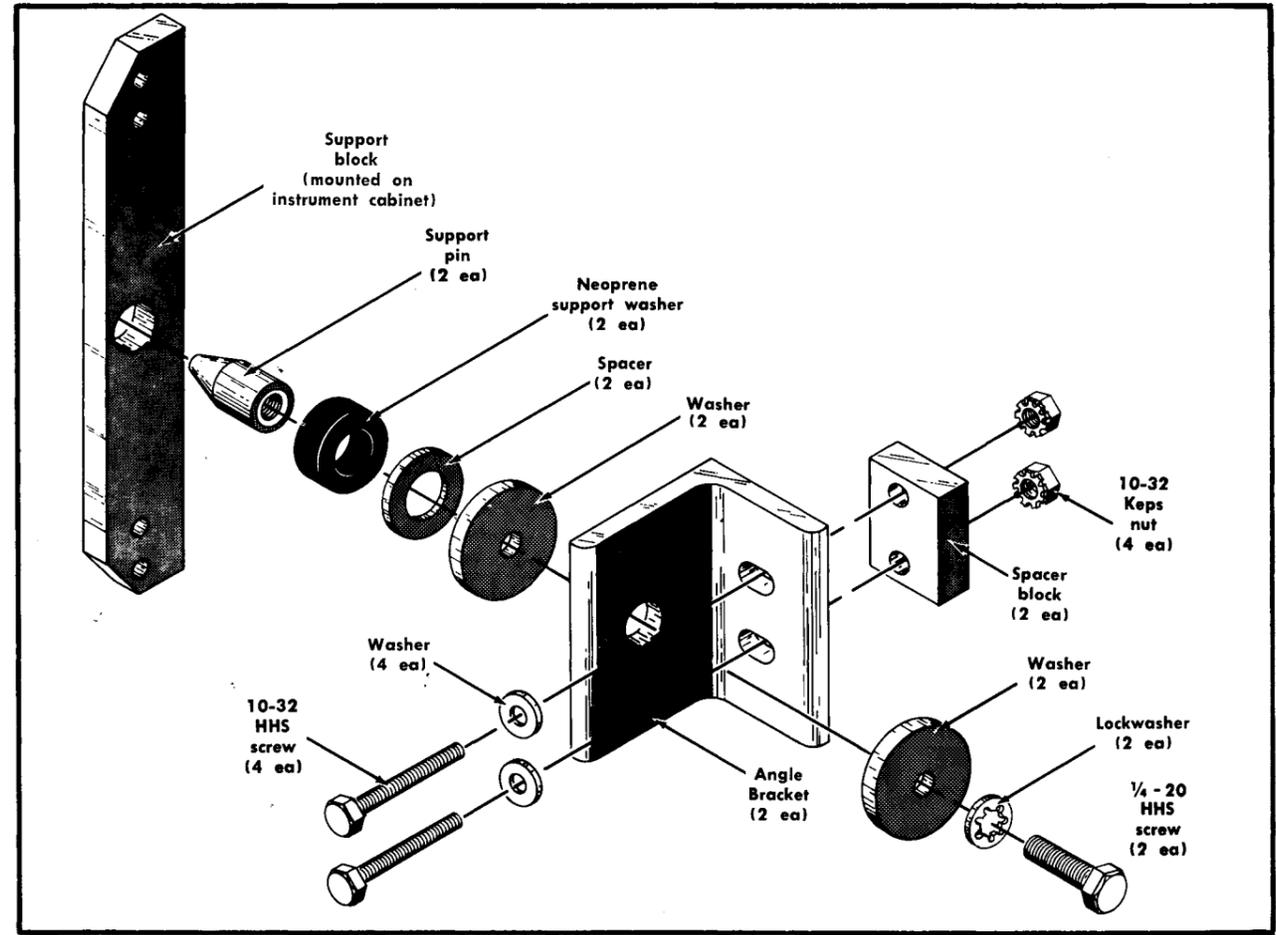

Fig. 10-4. Rear support kit.
The following procedure uses the rear support kit shown in Figs. 10-4 and 10-6. The instrument will meet the environmental characteristics (shock and vibration) if mounted in this manner.
3. Attach an angle bracket to both rear rails of the racks through the spacer block, stationary sections, and into the rear rail of the rack. Note that the holes in the spacer block are not centered. Mount the spacer block so the narrow portion, between the holes and the edge, is towards the rack front. This will allow the instrument to slide all the way into the rack. Do not tighten the mounting screws. Fig. 10-4 shows the parts in the rear support kit and the order in which they are assembled.
4. Assemble the support pin to the angle bracket in the order shown in Fig. 10-4. Leave the spacer washer off but install the neoprene washer.